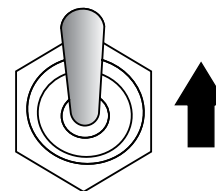

Figure 39. Power Switch
3. Place the **power switch** (Figure 39) on the control panel to the **ON** position (UP) and allow the controller to boot up.